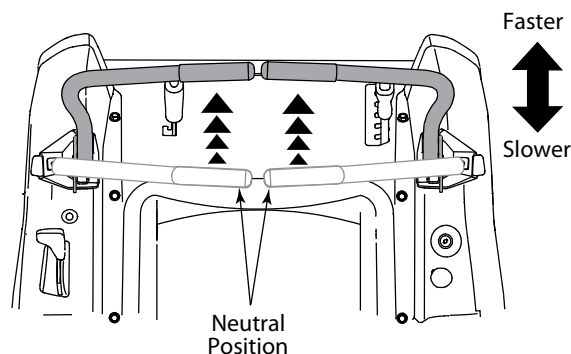

Figure 5-3
- Slowly and evenly move both drive control levers forward. The tractor will start to move forward. See Figure 5-3.